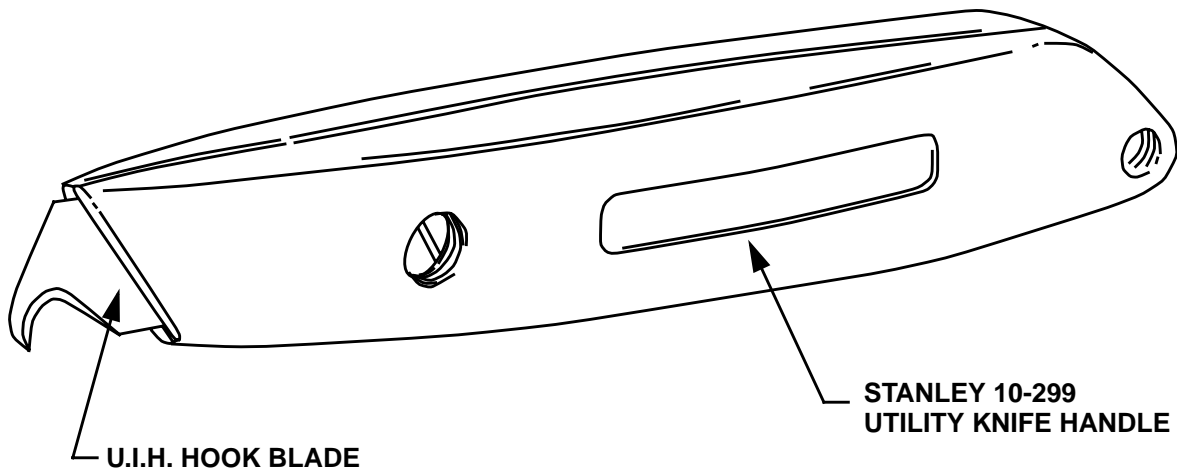

FIGURE 1 - GENERAL DESCRIPTION OF A UTILITY KNIFE WITH A HOOK BLADE
- 4.2.1.1 Refer to Figure 1 for a general description of a utility knife with a hook blade.